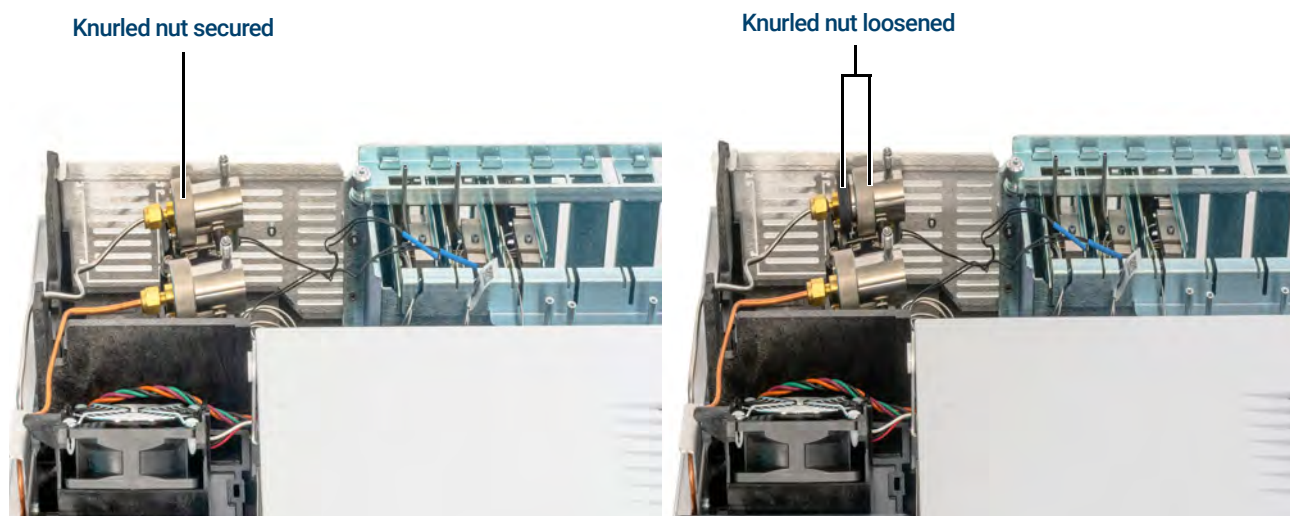

Figure 38. Loosen knurled nut
- 4 Completely loosen the knurled nut that secures the split vent trap in place as shown in **Figure 38**.